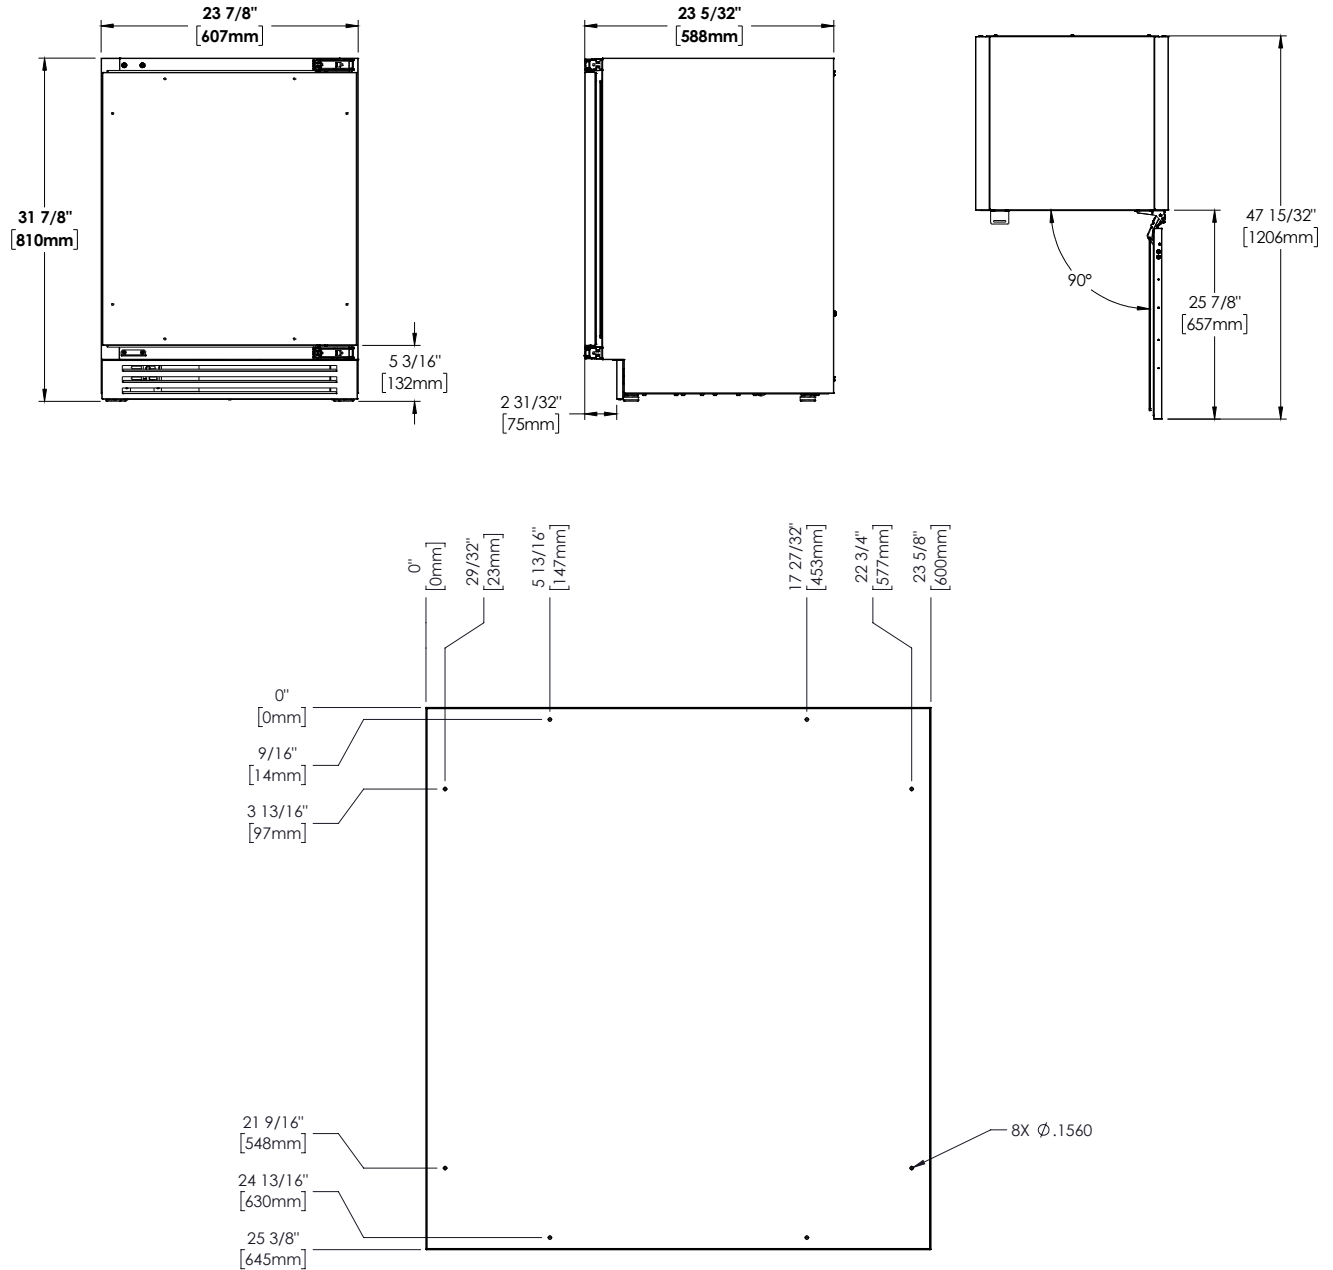

FIG. 1. Door front pre-drilled hole locations and measurements.
- Doors have pre-drilled holes to assist overlay panel installation. See fig. 1.